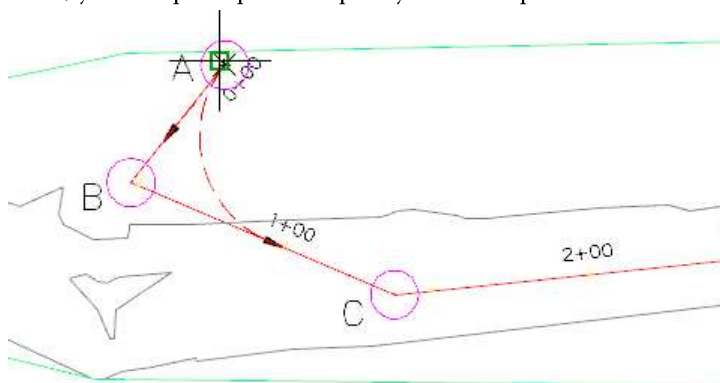

Figure 5-64 The arc segment displayed on specifying the first point
6. Click at the tick mark of the first station, **0+00**; an arc segment is displayed, as shown in Figure 5-64. Also, you are prompted to specify the next point of the arc.